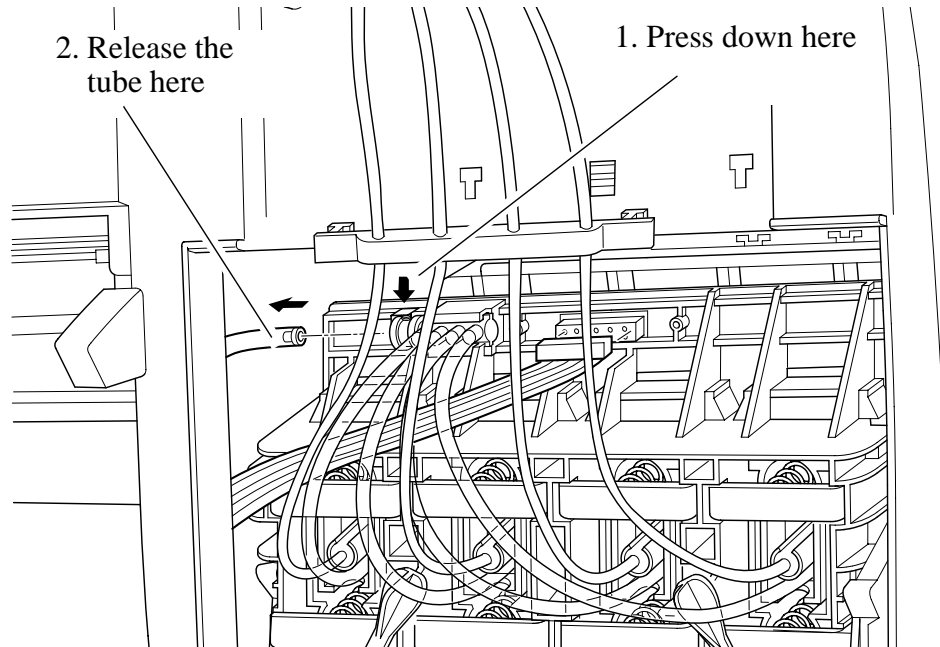

Figure 13: Air Tube
6. Disconnect the air tube (refer to Figure 13).